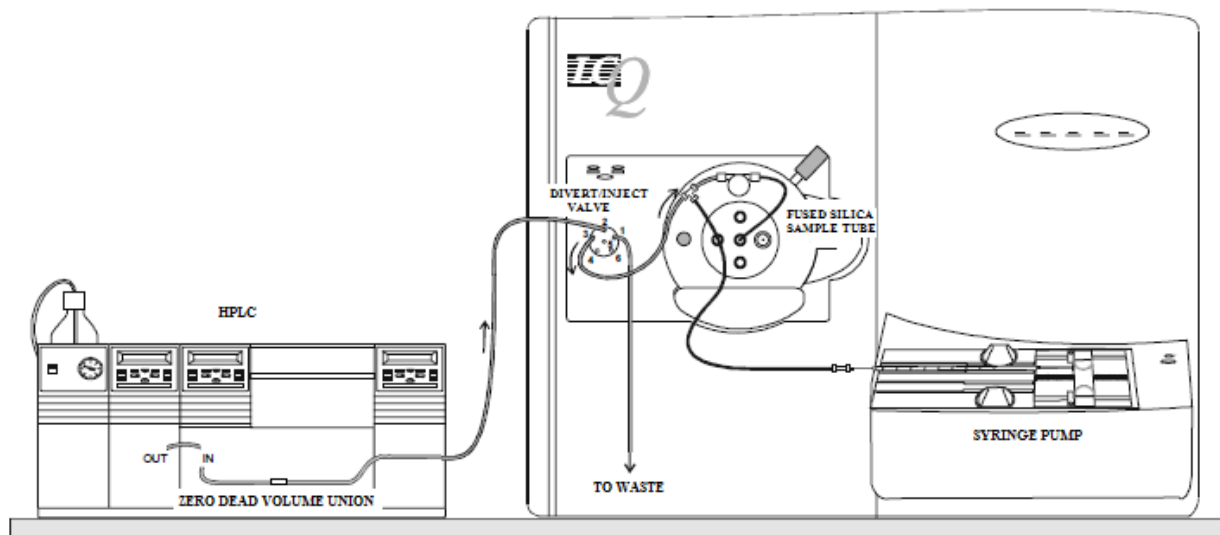

Figure 14. ESI/MS plumbing connections for sample introduction from the syringe pump into solvent flow from HPLC.
8.2.3.2. Set up the plumbing connections for ESI/MS sample introduction from the syringe pump into solvent flow from HPLC as shown in Figure 14.